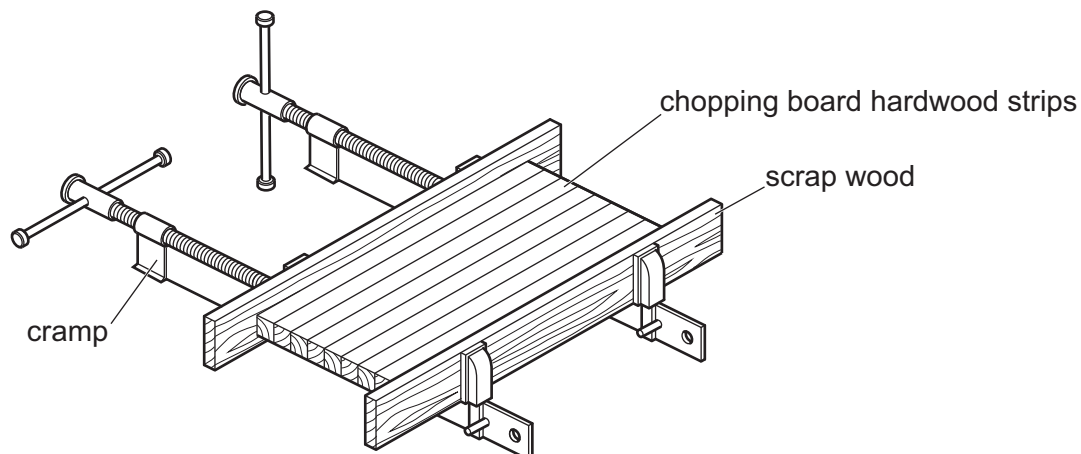

Fig. 3.1
- 3 Fig. 3.1 shows strips of hardwood glued and clamped together to make a chopping board.